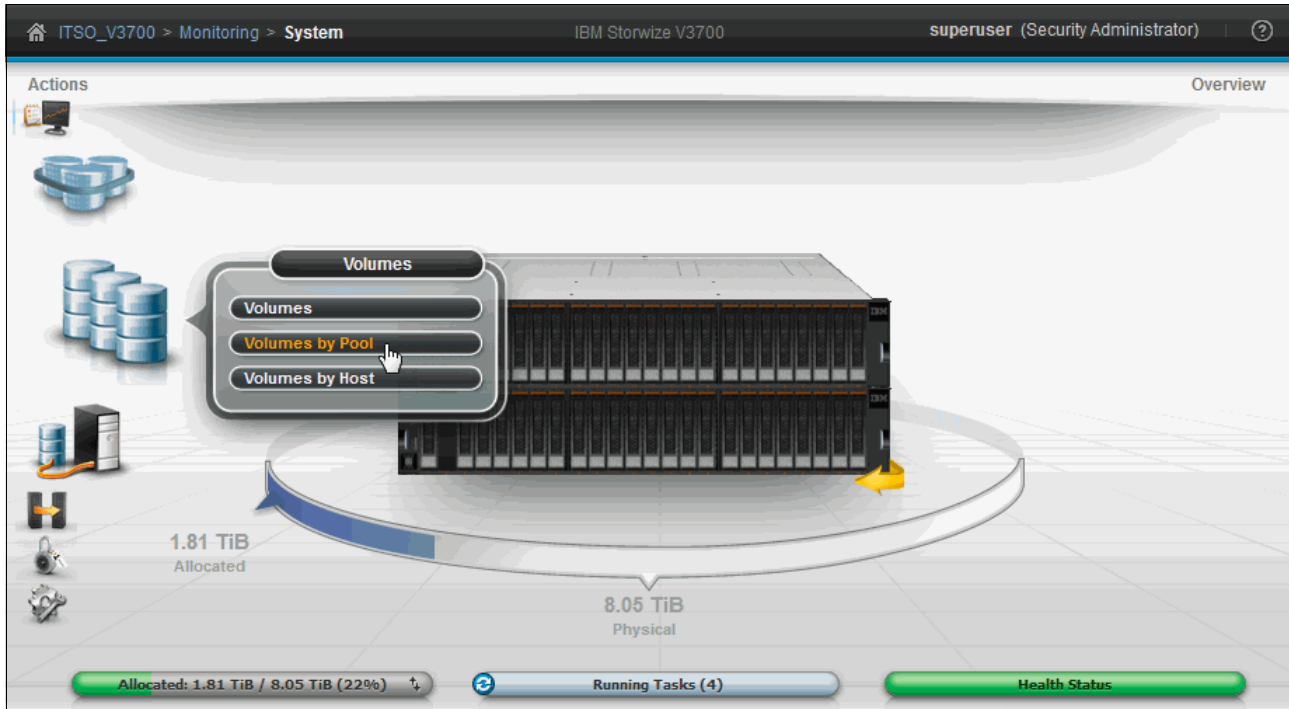

Figure 8-78 Volumes by Pool
1. Click **Volumes by Pool**, as shown in Figure 8-78.